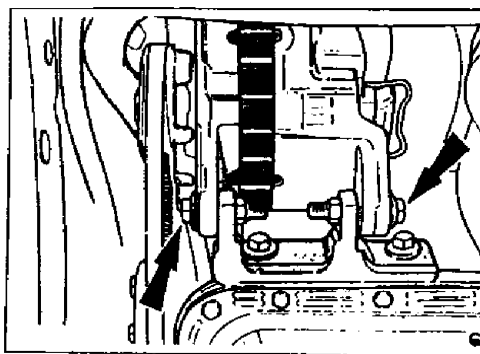

Fig. a1 - Alternator mounting bolts.
3. Loosen the main alternator mounting bolts. (Fig. a1)